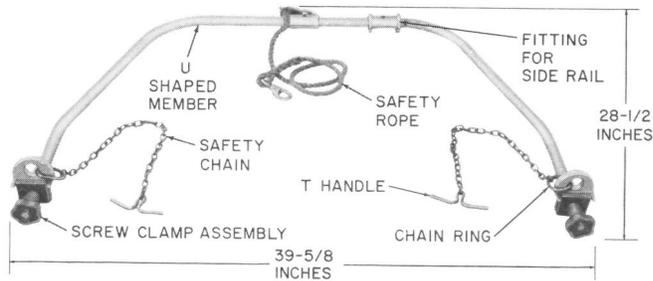

Fig. 5—C Ladder Support
3.01 Either the B Ladder Support (Fig. 3 and 4) or the C Ladder Support (Fig. 5 and 6) shall be used for supporting the upper end of an extension ladder away from cable and strand.